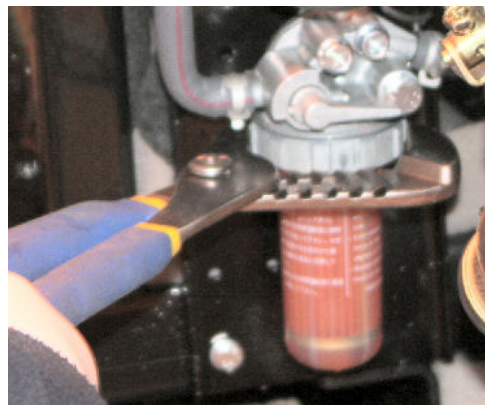

Fig 3-15 Fuel filter removal
2. Unscrew the securing ring (*Fig 3-15*) and remove the filter reservoir.